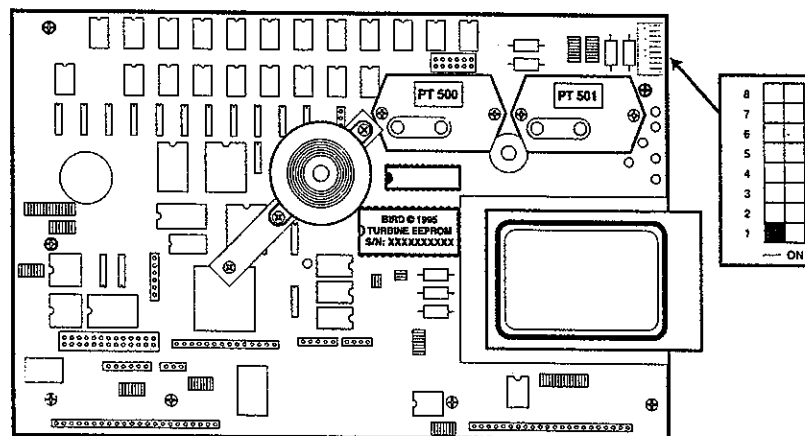

Figure 3-1. Main PCBA
3. Place DIP Switch 1 in the ON position. This is towards the inside of the ventilator as shown in Figure 3-1.